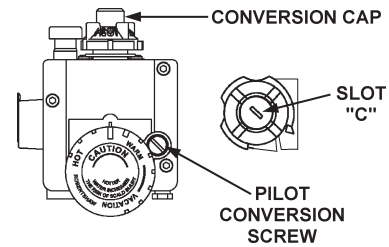

FIGURE 28.
24. Remove the conversion cap on the control knob, see Figure 28. Place screwdriver in slot "C", depress and turn control screw to "LP" position. Control screw must be in "LP" position for propane (LP) gas and in "NAT" position for natural gas. Pilot screw must be switched to natural position when converting to natural gas. STOP! Read label "For Your Safety" located on your water heater.